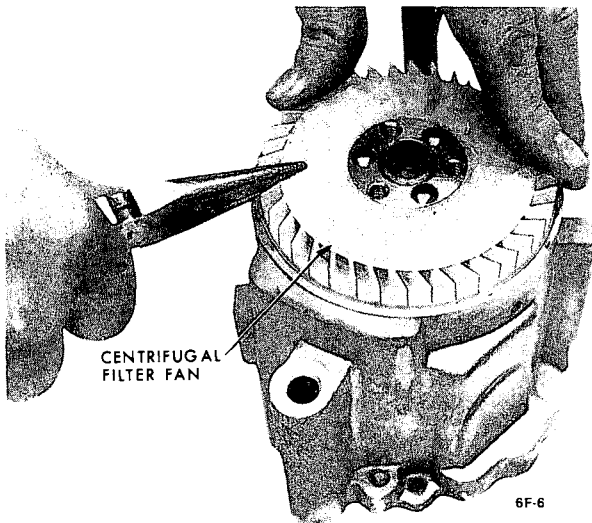

Figure 6F-5 Removing Centrifugal Fan From Hub
2. Insert needle nose pliers and pull fan from hub, as shown in Figure 6F-5. It is seldom possible to remove fan without damaging it. Care should be taken to prevent fragments from entering the air intake hole.